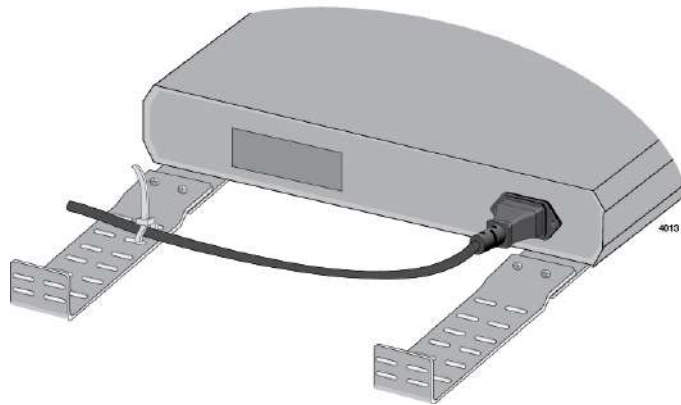

Figure 30. Securing the Power Cord Using Tie-wraps
5. If the switch is installed in a rack, use the tie-warps provided to secure the power cord, as shown in Figure 30.